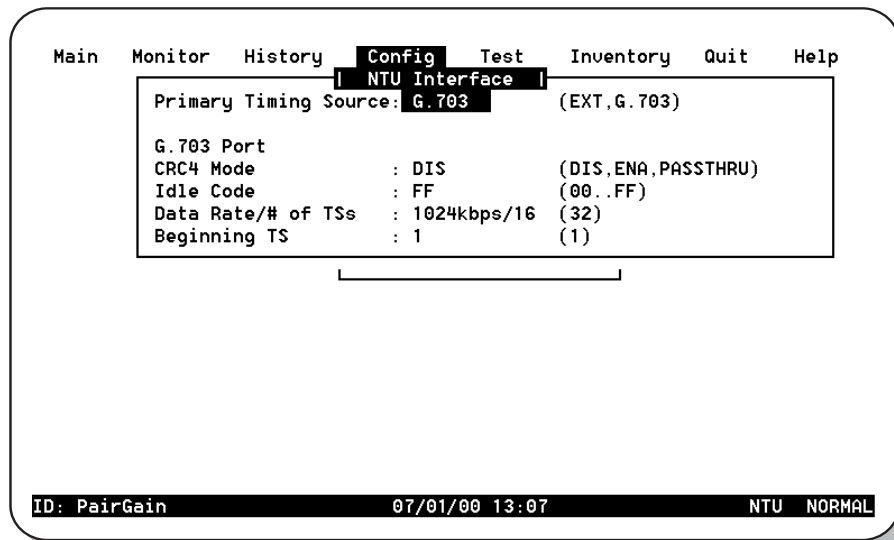

Figure 23. Config NTU Interface Menu
- **N** for the *Config NTU Interface* menu (Figure 23).